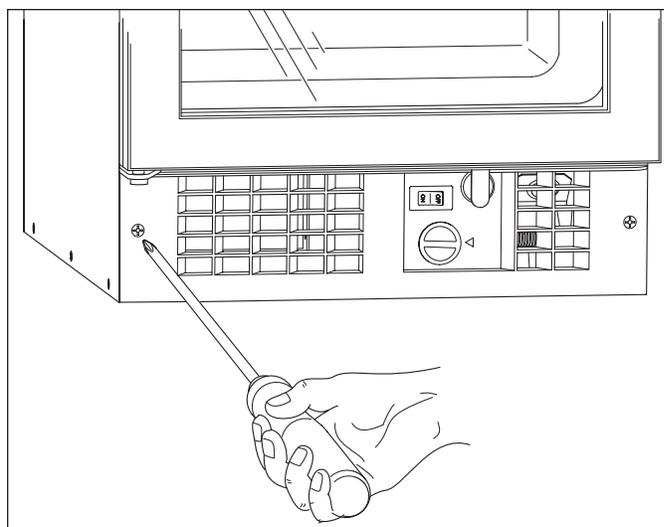
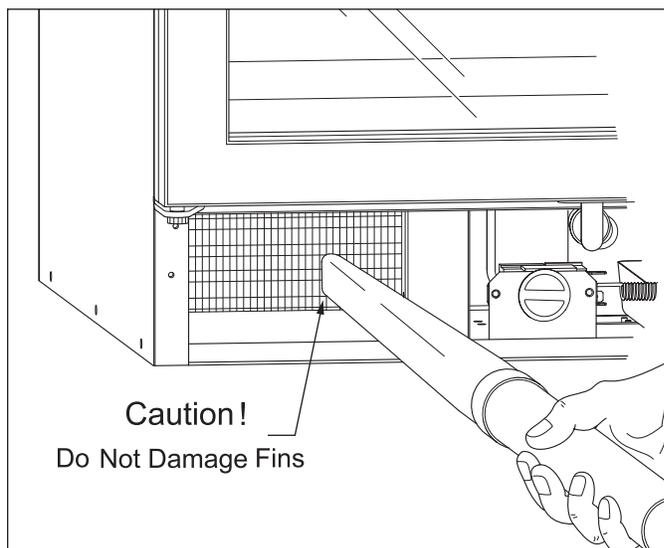

Figure 3-5. Remove Kickplate
Figure 3-6. Vacuum Fins
6. The condenser should be vacuumed approximately every 3 to 6 months to remove any dust or lint that may have been drawn to it. To access the condenser, use a phillips screwdriver to remove the kickplate. Then, use an accessory probe on the vacuum cleaner hose to reach back into the left side of the compressor area to remove any lint from the front of the condenser fins. (See Figure 3-5 and Figure 3-6)